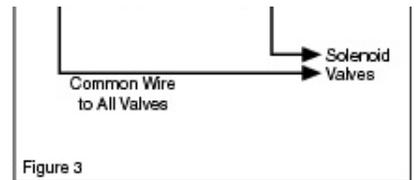

Figure 3
24 Volt Solenoid Valves Only (No booster pump) (See Figure 3)
- With the two wires from the Mini-Clik at the controller, locate the “common wire” of the solenoid valves. If it is connected to the common terminal on the controller, disconnect it. Attach one wire of the Mini-Clik to the “common” terminal (usually marked “C”) on the controller. Attach the other wire of the Mini-Clik to the common wire leading to the valves.(Figure 3)
- [5] http://www.hunterindustries.com/sites/default/files/ts_miniclik_fig3.gif